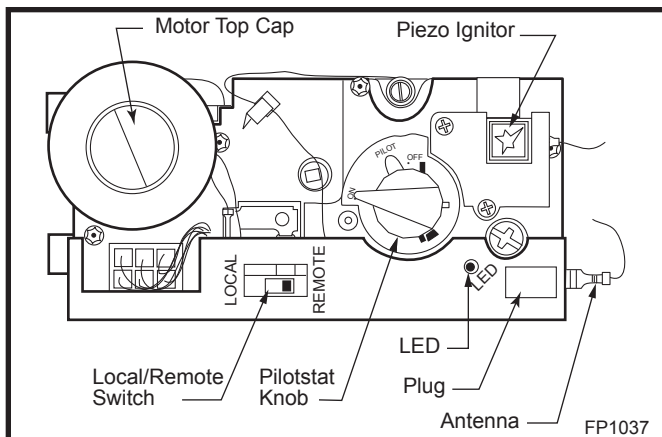

Fig. 49 Comfort control valve.
1. If the manual switch is in remote position, switch it to LOCAL. (Fig. 49)